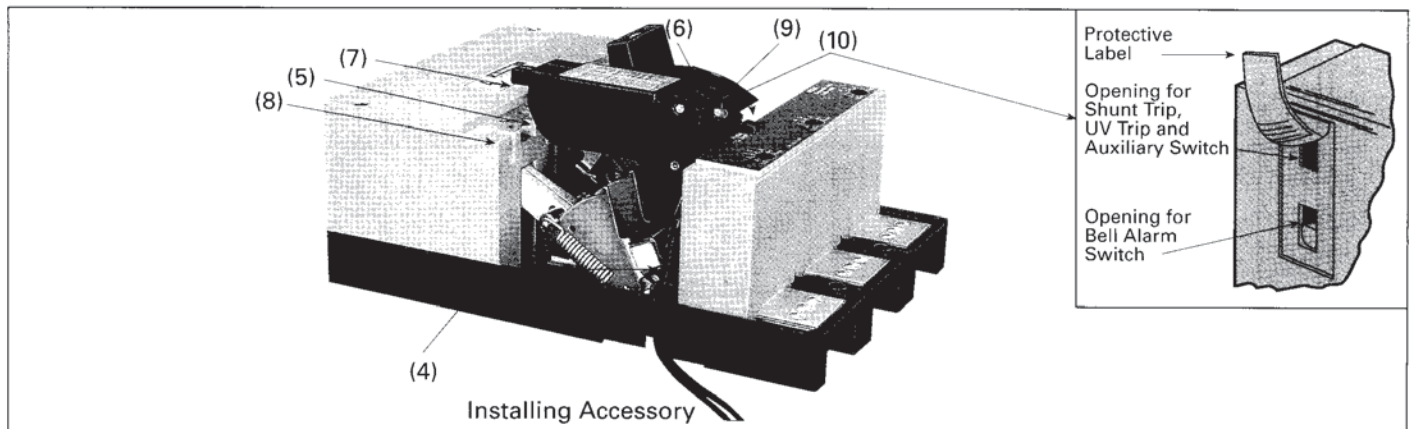

Figure 3
- A. Feed accessory leads down and through 5/16 x 1/2" elongated opening (4) to bring leads out of bottom of circuit breaker (Figure 3). **NOTE: Leads must be brought out in the same order as they exit wire retainer of accessory case.**
- B. Accessory is located in circuit breaker by groove (5), bottom side of accessory. Remove protective label from top of trip unit and guide actuator (9) into opening (10).